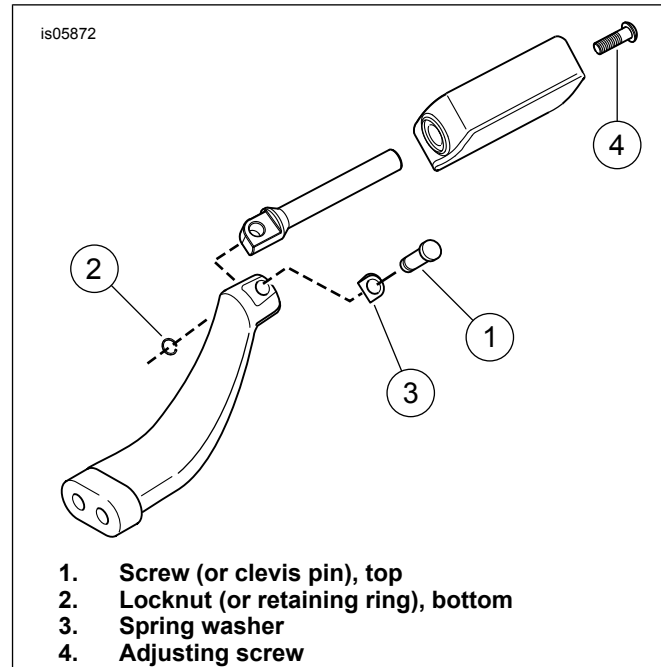

Figure 1. Installing the Footpeg
1. See Figure 1. Remove screw (1) and locknut (2) from each footpeg. Save hardware.
5. See Figure 1. For each footpeg, loosen adjusting screw (4). Position footpeg as desired and tighten screw.